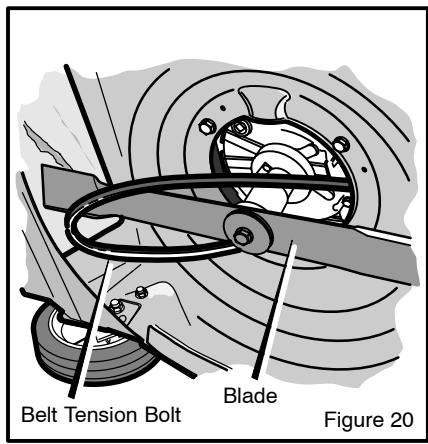

Figure 20
5. To remove the rear of the **drive belt**, slip the **drive belt** over the end of the **blade** (Figure 20).